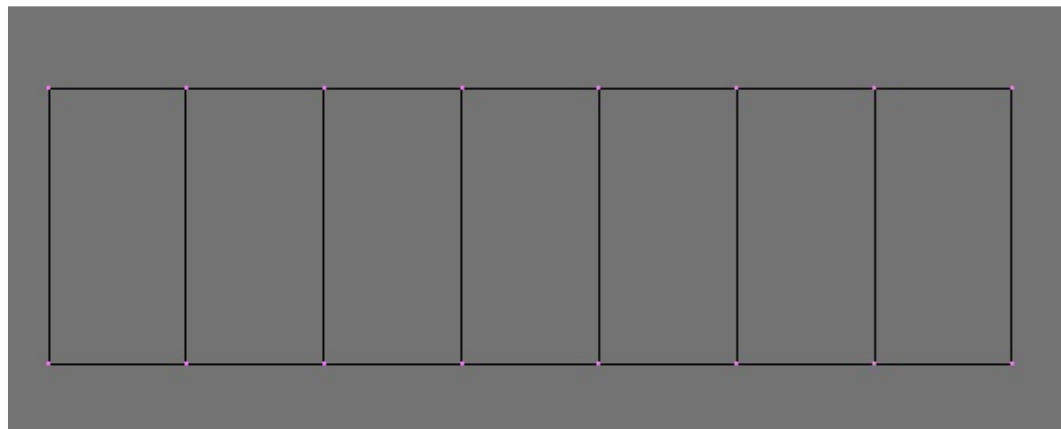

Fig 1. Six extrusions of one end of a box
1. Add a cube. Select one end and extrude out six times. You should have seven divisions now. See Figure 1.